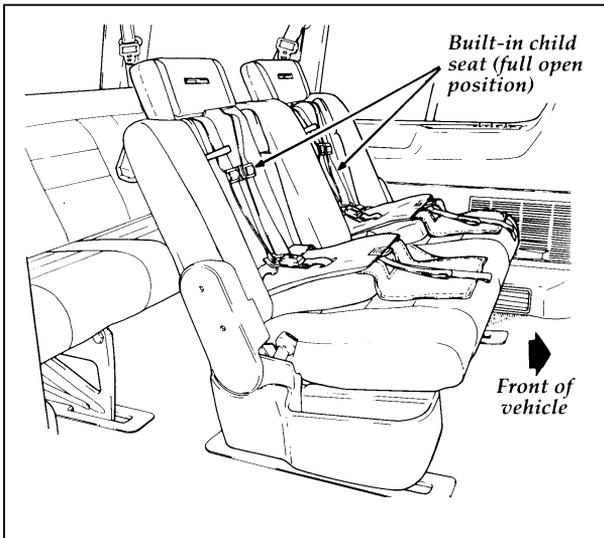
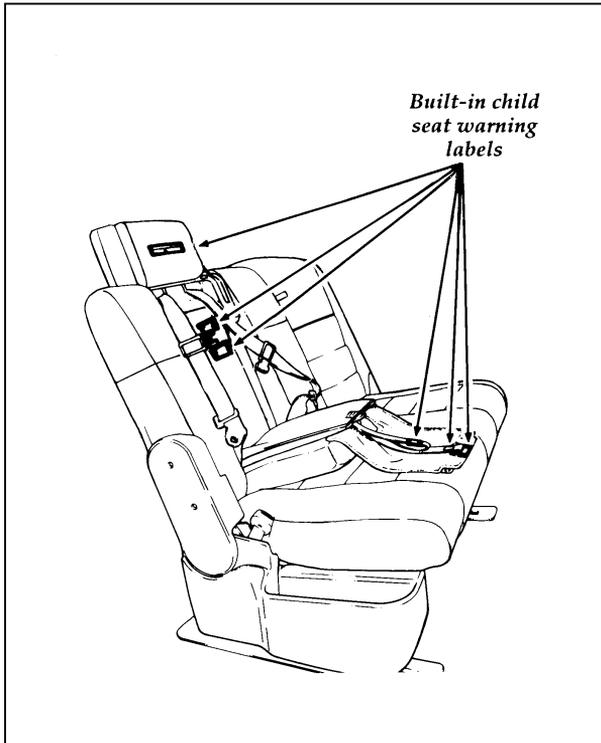

Figure 2
Figure 3
3. While holding the shoulder and lap belt portions together, route the tongue through the child seat according to the child seat manufacturer's instructions. See Figure 2. Be sure the belt webbing is not twisted, and insert the tongue into the buckle. See Figure 3.
2. Continue to unfold the child seat until it rests on the seat as shown in Figure 2.
3. Read the information and warnings on the child seat. Check the child's size, weight and age to be sure the child is not too small or too large for the child seat. Refer to Figure 3.